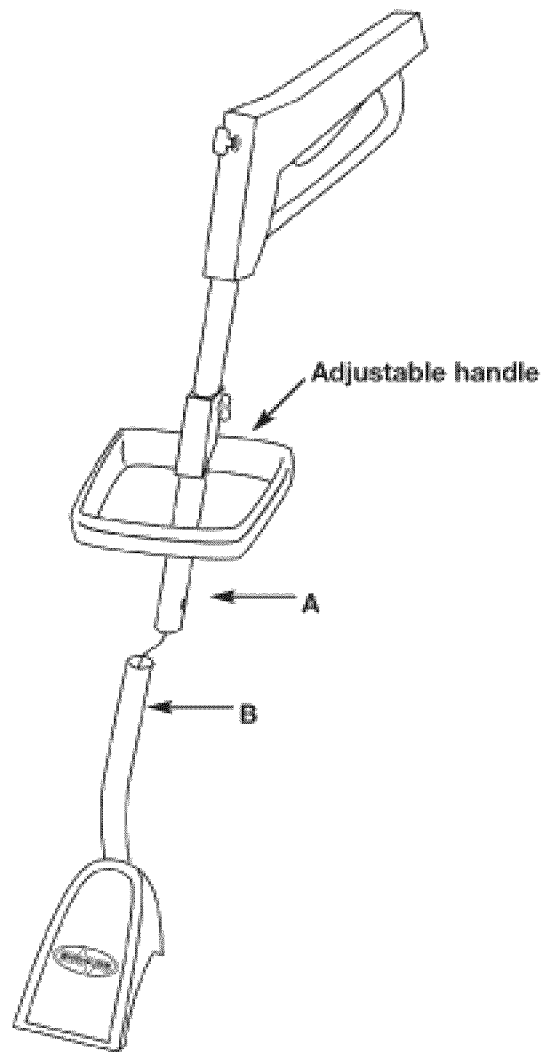

Figure 2
2. Slide the lower tube (B) into the upper tube (A) (Figure 2)